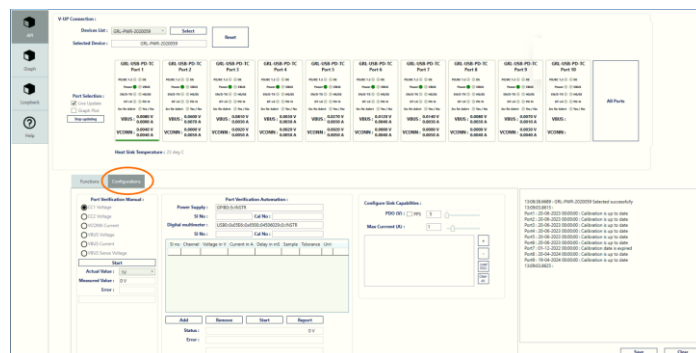

FIGURE 4.1: SELECT CONFIGURATIONS TAB FOR PORT VERIFICATION
1. Open the GRL-V-UP API Test software and select the **Configurations** tab in the API configuration pane. See Figure 4.1.